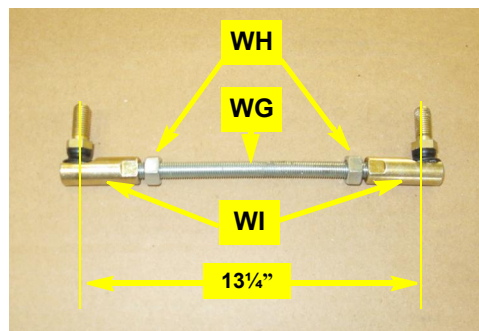

Figure 1d: Assembled threaded link rod
- d. Screw nuts **WH** and swivel rod ends **WI** onto rod **WG** to achieve a center-to-center stud measurement of 13¼" (Figure 1d). Leave **WH** loose until you complete linkage adjustment at step 2f.